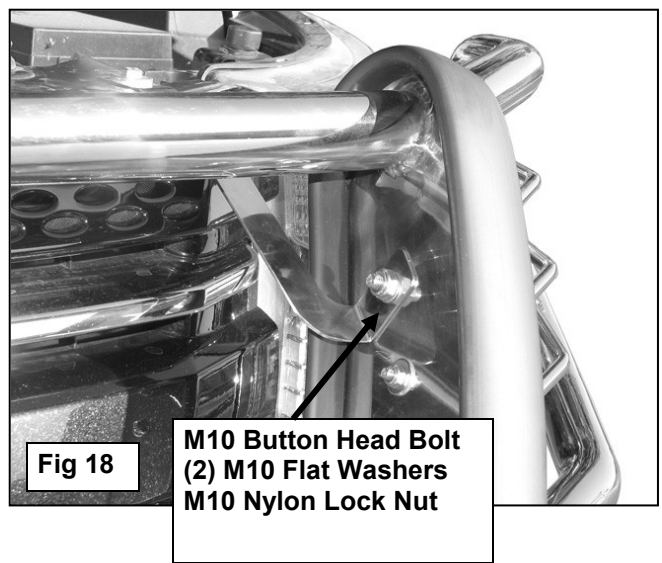

Fig 18
14. Insert the driver side Top Bracket through the opening cut into the top cover and line up the mounting slot. Bolt the Top Bracket to the cover with the included (1) M6 Hex Bolt, (1) M6 Flat Washer and (1) M6 Lock Washer, (Figure 17). Line up the remaining, (forward), end of the Top Bracket with the hole in the upright on the Grille Guard. Bolt the Bracket to the inside of the upright with (1) M10 Button Head Bolt, (2) M10 Flat Washers and (1) M10 Nylon Lock Nut, (Figure 18). Repeat this Step for passenger side Top Bracket installation.